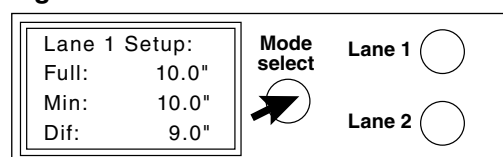

Fig. 8
6. Press LANE 1 to continue to navigate through and set the Full, Min, and Dif ice level sensor settings for lane 1 (Fig. 8).